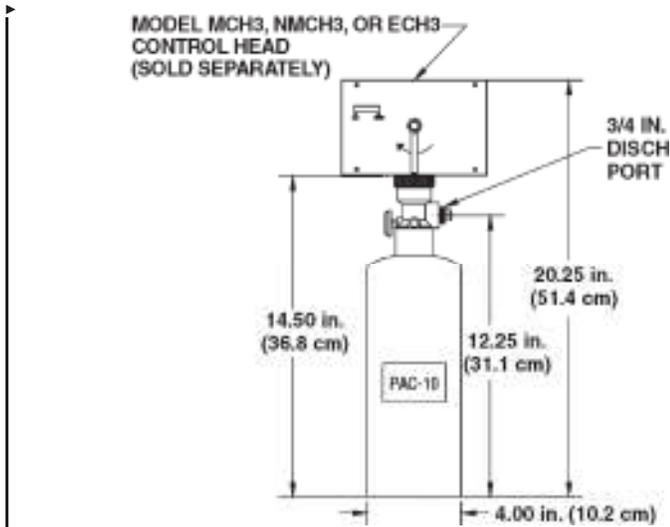

Figure 2-8. Model PAC-10 Pneumatic Actuating Cylinder.
The Model PAC-10 is a pneumatic actuating cylinder that can actuate a maximum of ten (10) agent cylinders simultaneously. The Model PAC-10 includes a DOT 4BA350 cylinder pressurized with dry nitrogen to 350 PSIG @ 70° ., a brass valve with pressure gauge, and a wall mounting bracket. A Model MCH3, NMCH3 or ECH3 control head must be purchased separately and connected to the PAC-10 to open the valve. **See Figure 2-8.**